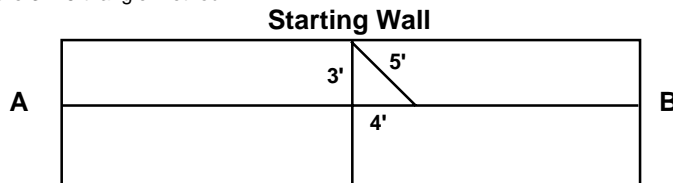
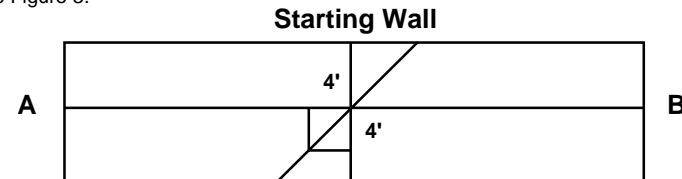

Figure 2
Figure 3
2. When installing begins in the center of the room, strike a line (AB-Figure 2) connecting points AB which are located at the center of the narrowest dimension of the room. Find the center of the line AB and strike a 90° line through the center by the 3-4-5 triangle method.
3. For diagonal patterns, the diagonal working line is formed by striking a line through the center of the room that bisects the 90° angles as formed in Figure 2. See Figure 3.